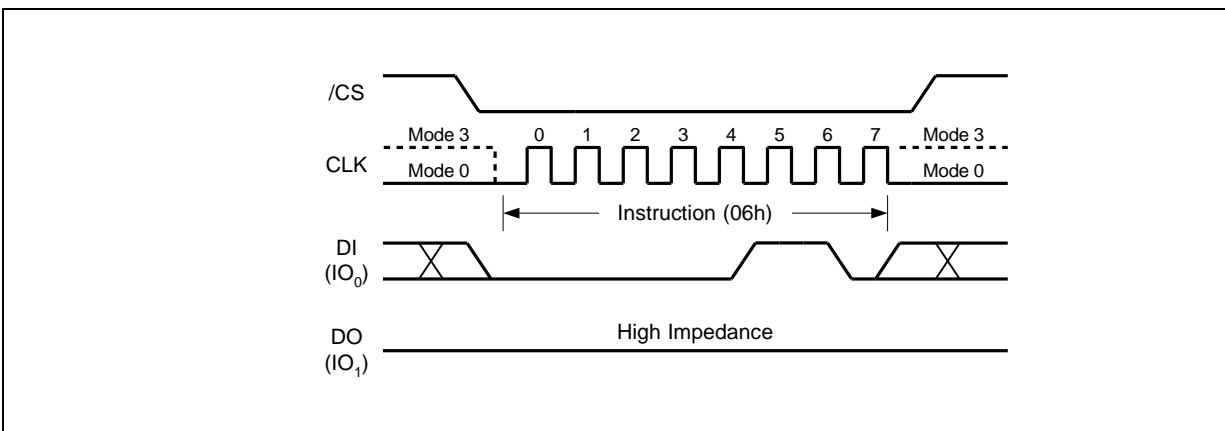

Figure 5. Write Enable Instruction
Instructions vary in length from a single byte to several bytes and may be followed by address bytes, data bytes, dummy bytes (don't care), and in some cases, a combination. Instructions are completed with the rising edge of edge /CS. Clock relative timing diagrams for each instruction are included in Figures 5 through 57. All read instructions can be completed after any clocked bit. However, all instructions that Write, Program or Erase must complete on a byte boundary (/CS driven high after a full 8-bits have been clocked) otherwise the instruction will be ignored. This feature further protects the device from inadvertent writes. Additionally, while the memory is being programmed or erased, or when the Status Register is being written, all instructions except for Read Status Register will be ignored until the program or erase cycle has completed.
The Write Enable instruction (Figure 5) sets the Write Enable Latch (WEL) bit in the Status Register to a 1. The WEL bit must be set prior to every Page Program, Quad Page Program, Sector Erase, Block Erase, Chip Erase, Write Status Register and Erase/Program Security Registers instruction. The Write Enable instruction is entered by driving /CS low, shifting the instruction code “06h” into the Data Input (DI) pin on the rising edge of CLK, and then driving /CS high.